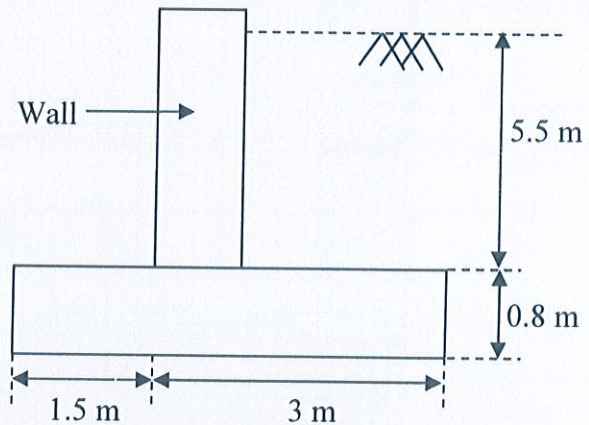

Figure 2: Retaining wall of an artificial lake
2. Calculate (i) the horizontal deflection at C and (ii) vertical deflection at E or rotation at E for the frame in **Fig.2** by the Unit Load Method. [12]
- b. A reinforced concrete cantilever retaining wall of an artificial lake as shown in **Figure 2** is subjected to lateral load due to soil and pore water (50% void) pressure. Thickness of the wall could be considered as 700 mm. Apply the concept to design the wall (only) for flexure. The density of soil and water are 1800 kg/m^3 and 1000 kg/m^3 respectively; coefficient of active soil pressure is 0.33. Assume required data to design the wall. [10 Marks]